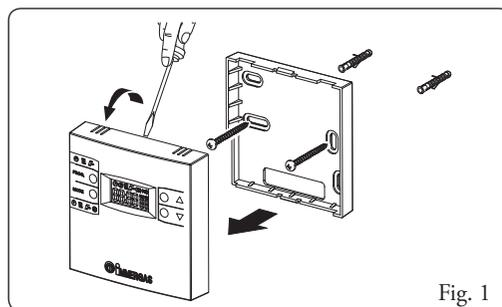

Fig. 1
- Separate the fixing template from the mini CRD body (Fig. 1).
- Install the mini CRD directly on the wall by using the specific holes, made on its rear (Fig. 1), and the specific screws supplied.
- Fix the body of the mini CRD to the mount template, engaging it with pressure (Fig. 1).